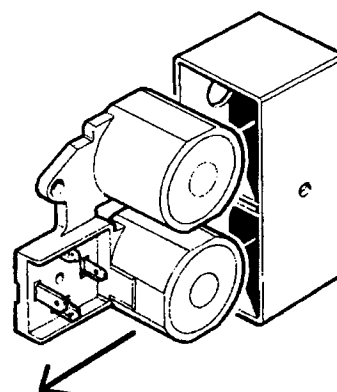

Fig. 30a
- 8.12.3 Remove bracket complete with solenoids, release solenoids from bracket (Fig. 30a).